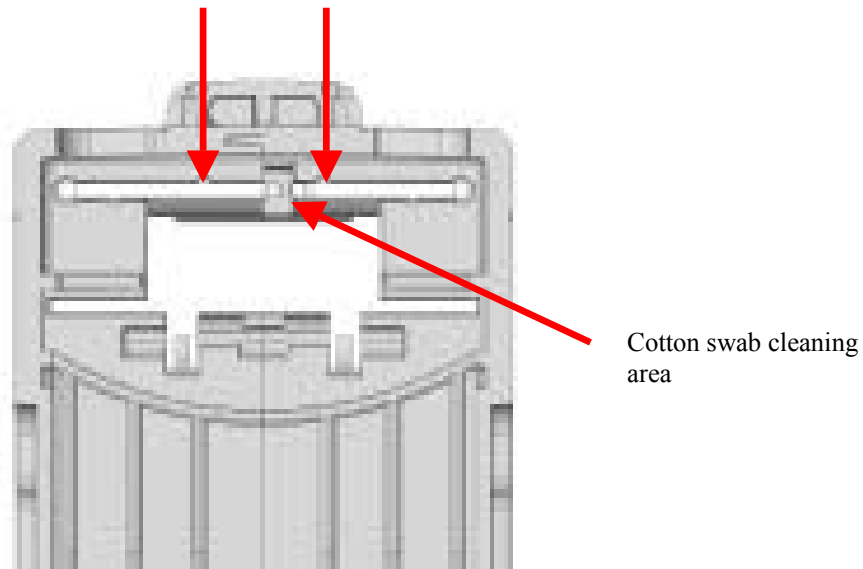

Fig.3
- Take a cotton swab and clean the light pipes inside the cashbox as shown in Fig. 3 below.